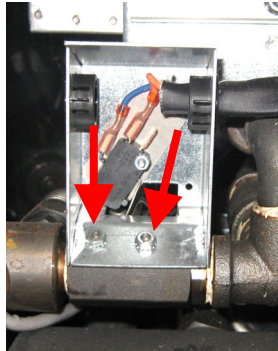

Figure 2
5. Remove the 2 nuts that attach the filter switch box to the return valve (see Figures 2 & 3).